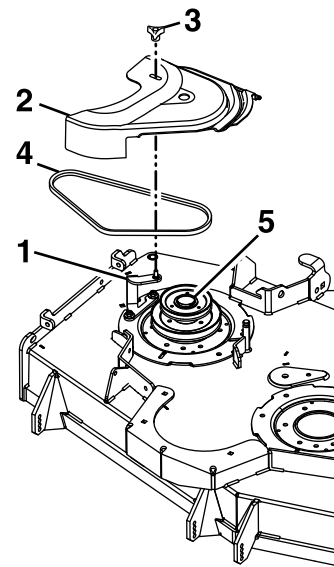

Figure 24
7. Remove the knob from the belt-cover bracket and take off the belt cover (Figure 24).